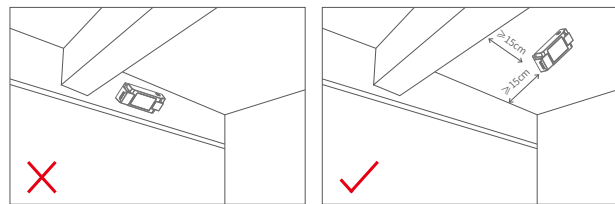

Figure 4
- The driver should be kept at a certain distance from beams, walls, etc.; the recommended spacing should be $>15\text{cm}$ to avoid signal interference, as shown in Figure 4.